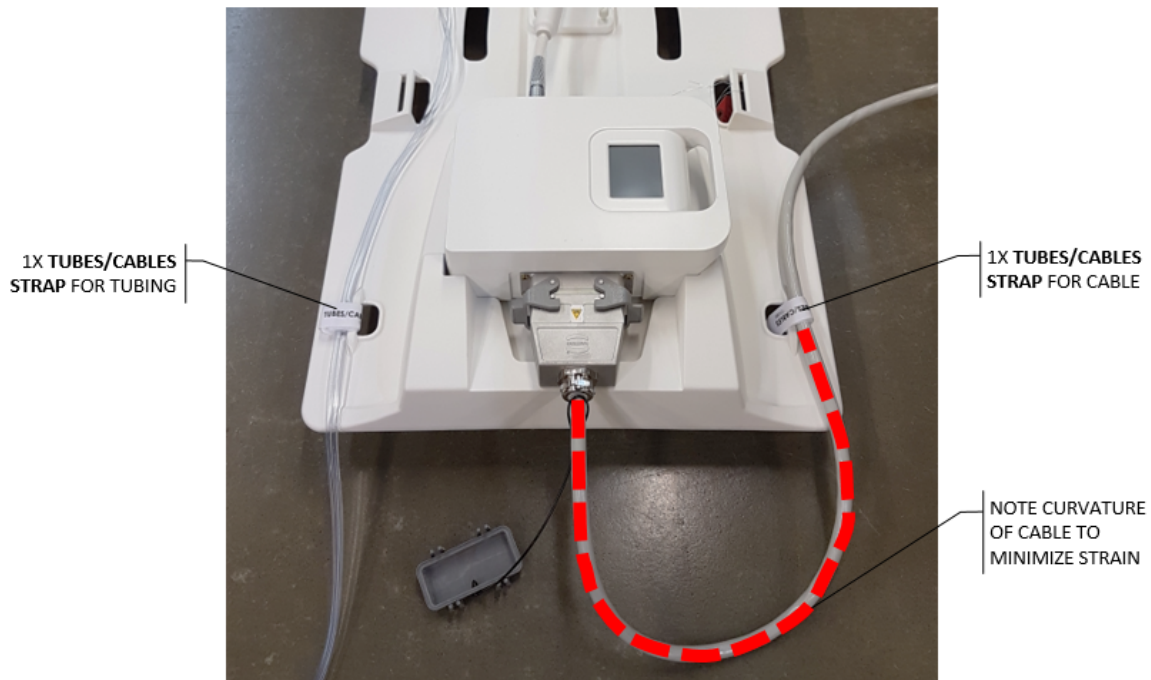

Figure 28: Tube-and-cable straps of base plate: one for tube sets and one for RF cable
4. MRI Technologist: Use tube-and-cable straps to manage fluid tubes and the white RF cable as shown in *Figure 28*. Leave some slack to allow the cables to slide freely and to reduce tripping hazards. Ensure no cables, tubing, or other materials can be caught while the MRI table is moving.